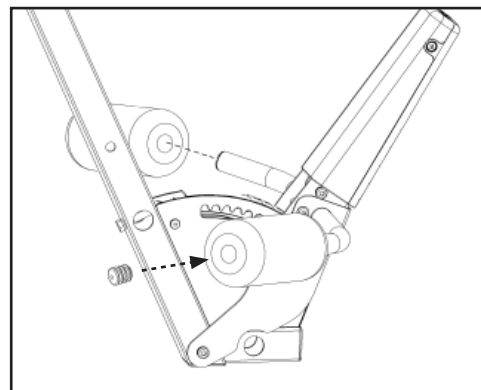

Figure 14
- Slide the Foam Rollers over each side of the Ankle Bar (Figure 14).
- Insert the Black Plugs into both ends of the Ankle Bar (Figure 14).